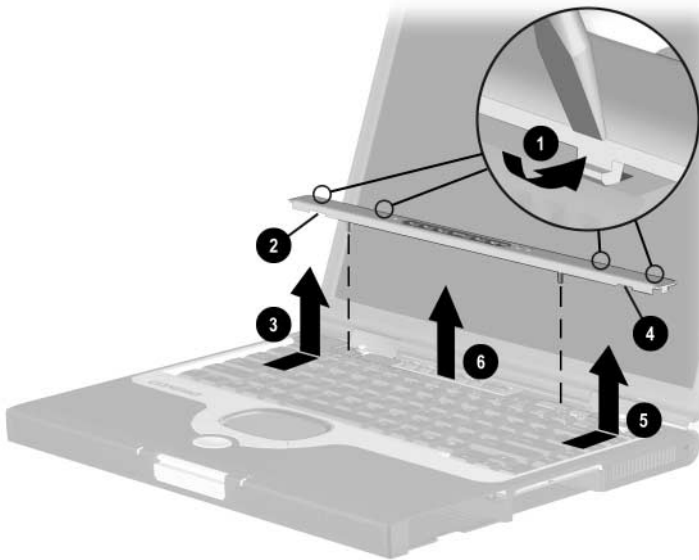

Figure 5-14. Removing the LED Cover
6. Use a flat-bladed tool to pry forward on the four clips on the LED cover ❶ (Figure 5-14).
7. Press the **esc** and **F1** keys to reveal the left notch ❷ in the LED cover.
8. Insert a flat-bladed tool into the left notch and lift the left side of the LED cover ❸.
9. Press the **Pause** and **Del** keys to reveal the right notch ❹ in the LED cover.
10. Insert a flat-bladed tool into the right notch and lift the right side of the LED cover ❺.
11. Remove the LED cover ❻.